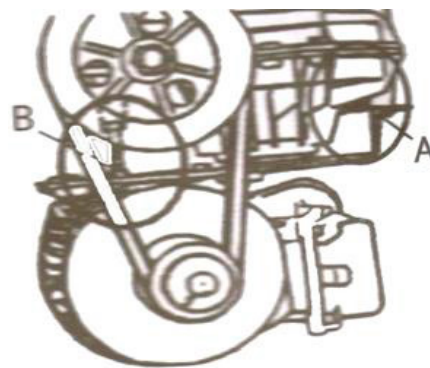

FIG 41
- Periodically check and adjust the tension force of the transmission belt and properly adjust the adjustable nuts at the A and B position to adjust the tension of the belt. (**Fig41**)